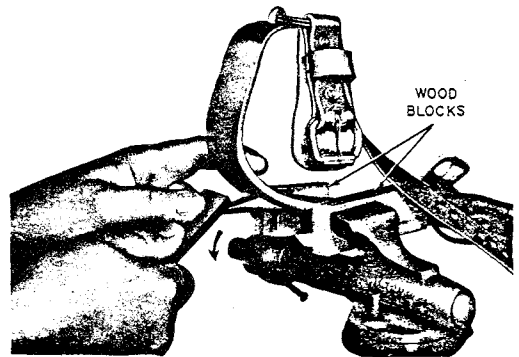

Fig. 21—Using Vise for Honing Gaff
7.06 When using a vise to hold a climber, always protect the leg iron by placing wood blocks between the vise jaws and the leg irons as shown in Fig. 21. This prevents scoring the leg iron which may weaken it.